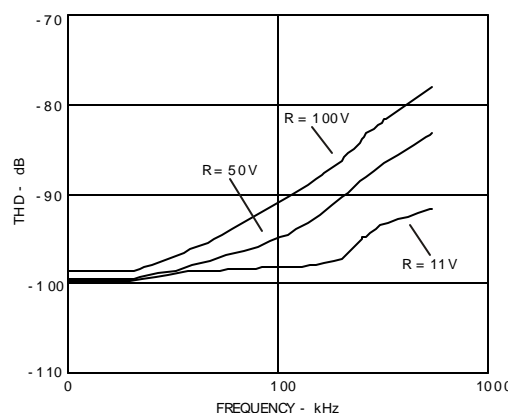

Figure 72. THD vs. Analog Input Frequency and Input Resistance (0 V to 2.5 V Only)
When using the 0 V to 2.5V analog input voltage range, the input impedance of the ADC is very high so the ADC can be driven directly by a low impedance source without gain error. That allows putting an external one-pole RC filter between the output of the amplifier output and the ADC analog inputs to even further improve the noise filtering done by the ADC analog input circuit. However, the source impedance has to be kept low because it affects the ac performances, especially the total harmonic distortion (THD). The maximum source impedance depends on the amount of total THD that can be tolerated. The THD degradation is a function of the source impedance and the maximum input frequency as shown in Figure 72.
- The driver needs to have a THD performance suitable to that of the ADC. Figure 72 gives the THD versus frequency that the driver should preferably exceed.